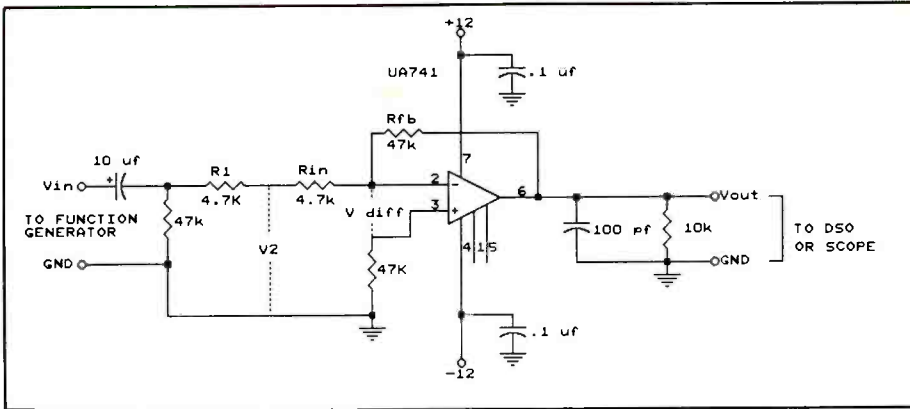

Fig. 3. Circuit arrangement to use for resistance test.
3. **Measuring Input Resistance:** Connect a 4,700-ohm resistor in series with the output of the Function Generator, as shown in Fig. 3.